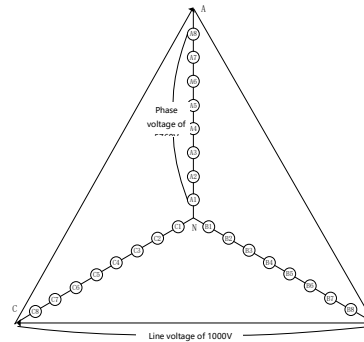

Fig. 4.4 10kV VFD's Unit Voltage Superposition
4.3. A 10 kV VEDA-IN MVD general-purpose VFD's number of power units is 24 or 27, as shown in Fig. 4.4.